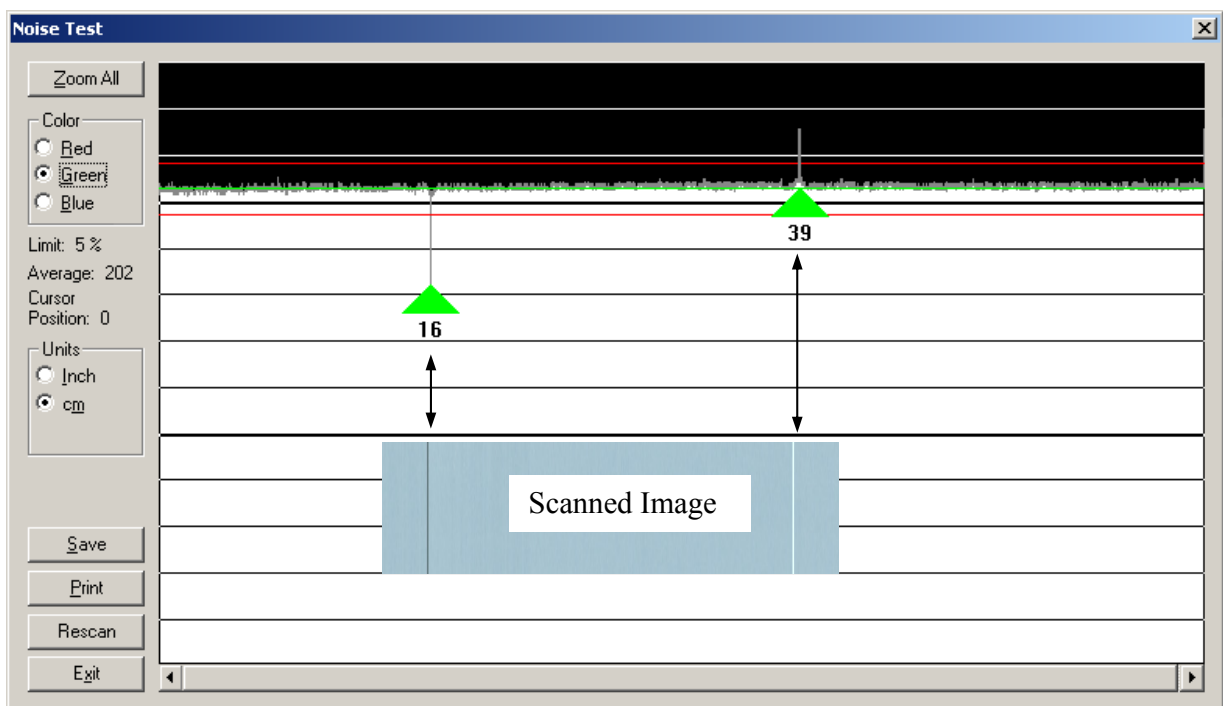

Fig. 5-2, Noise Test, Example
- **Downward spikes** often show up as darker vertical lines in the scanned image, see Fig. 5-2. Larger spikes are often caused by dust, dirt, scratches, or similar defects on the Glass Plate and may be removed by cleaning the Glass Plate.
- **Upward spikes** show up as very bright vertical lines in the scanned image, see Fig. 5-2. Larger spikes are often caused by dust or dirt present on the Glass Plate during the last calibration with Scanner Maintenance. These defects are memorized by the Light Profiles stored in Flash Memory and can only be removed by cleaning of the Glass Plate followed by running Scanner Maintenance again.